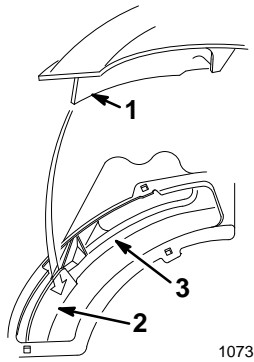

Figure 33
- Place front corner of the chute baffle into the deck opening. Rotate the chute counterclockwise and push down into the deck opening (Fig. 33).
4. Place the front corner of the mulch plate baffle into deck opening (Fig. 33).
5. Rotate the mulch plate counterclockwise and push it down into deck opening (Fig. 33).